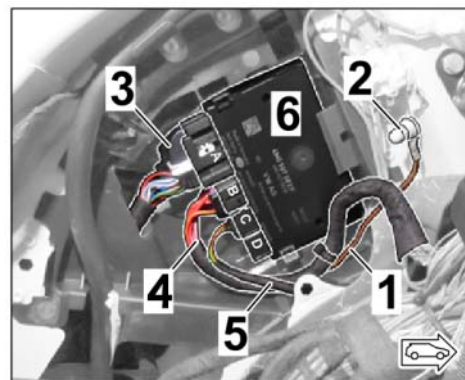

Figure 13
- 2.6 Connect plug connections for connector A / B / C to the trailer hitch control unit (⇒ *Figure 13*).